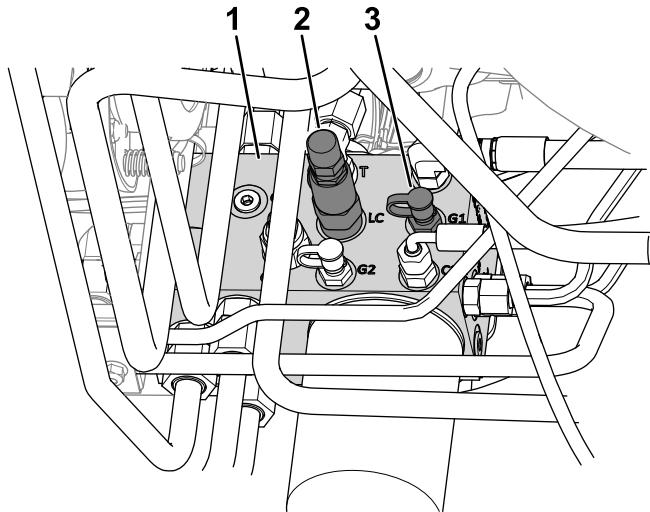

Figure 20
4. Connect a pressure gauge to the test port (labeled G1; refer to Figure 20).
2. Weight-transfer spool (LC)
5. At the side of the lift manifold, remove the cap from the test port (labeled G1; refer to Figure 20).
6. Loosen the jam nut at the end of the weight-transfer spool (labeled LC; refer to Figure 20).